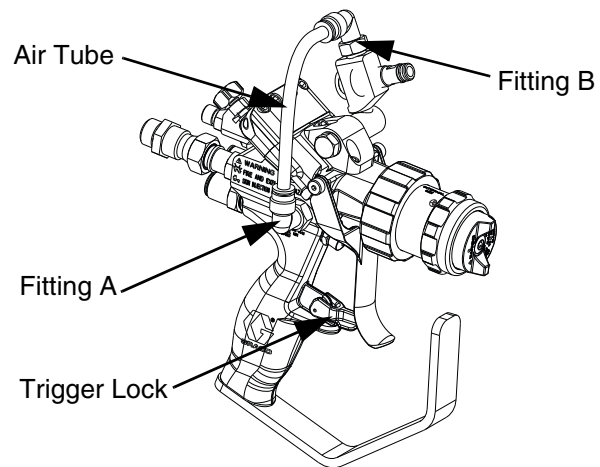

FIG. 2
2. Use a crescent wrench to remove air tube fittings A and B and the 1/4 in. air tube from the RS gun, as shown in **Figure 2**.